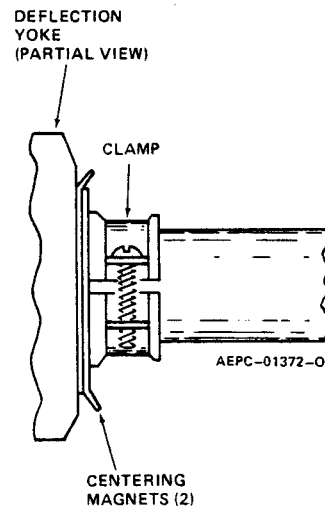
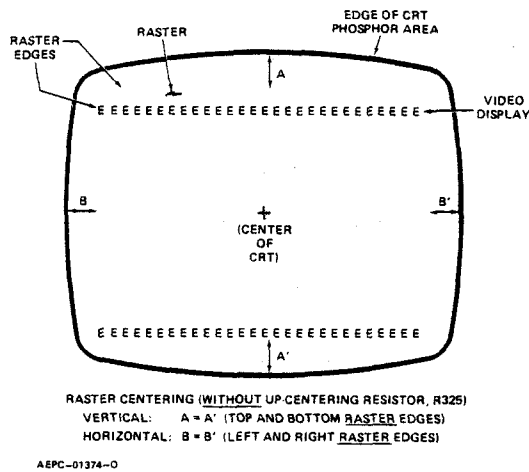
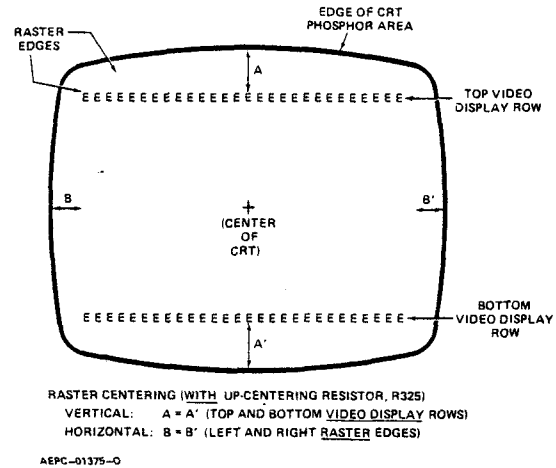

Figure 8. Partial View of CRT Neck/Deflection Yoke — Centering Magnets
Figure 9. Raster Centering Without Up-Centering Resistor, R325
Figure 10. Raster Centering With Up-Centering Resistor, R325
- Step 1. Turn up the Remote Brightness control (R213) until the four (4) edges of the raster are visible.
- Step 2. (Reference Figure 8.) Rotate the two (2) centering magnets (simultaneously) until the raster is centered (horizontally and vertically) within the active phosphor area of the CRT. (Reference Figure 9.)
- Step 2. (Reference Figure 8.) Rotate the two (2) centering magnets (simultaneously) until the left and right edges of the raster are centered horizontally, and the top and bottom edges of the video display are centered vertically within the active phosphor area of the CRT. (Reference Figure 10.)